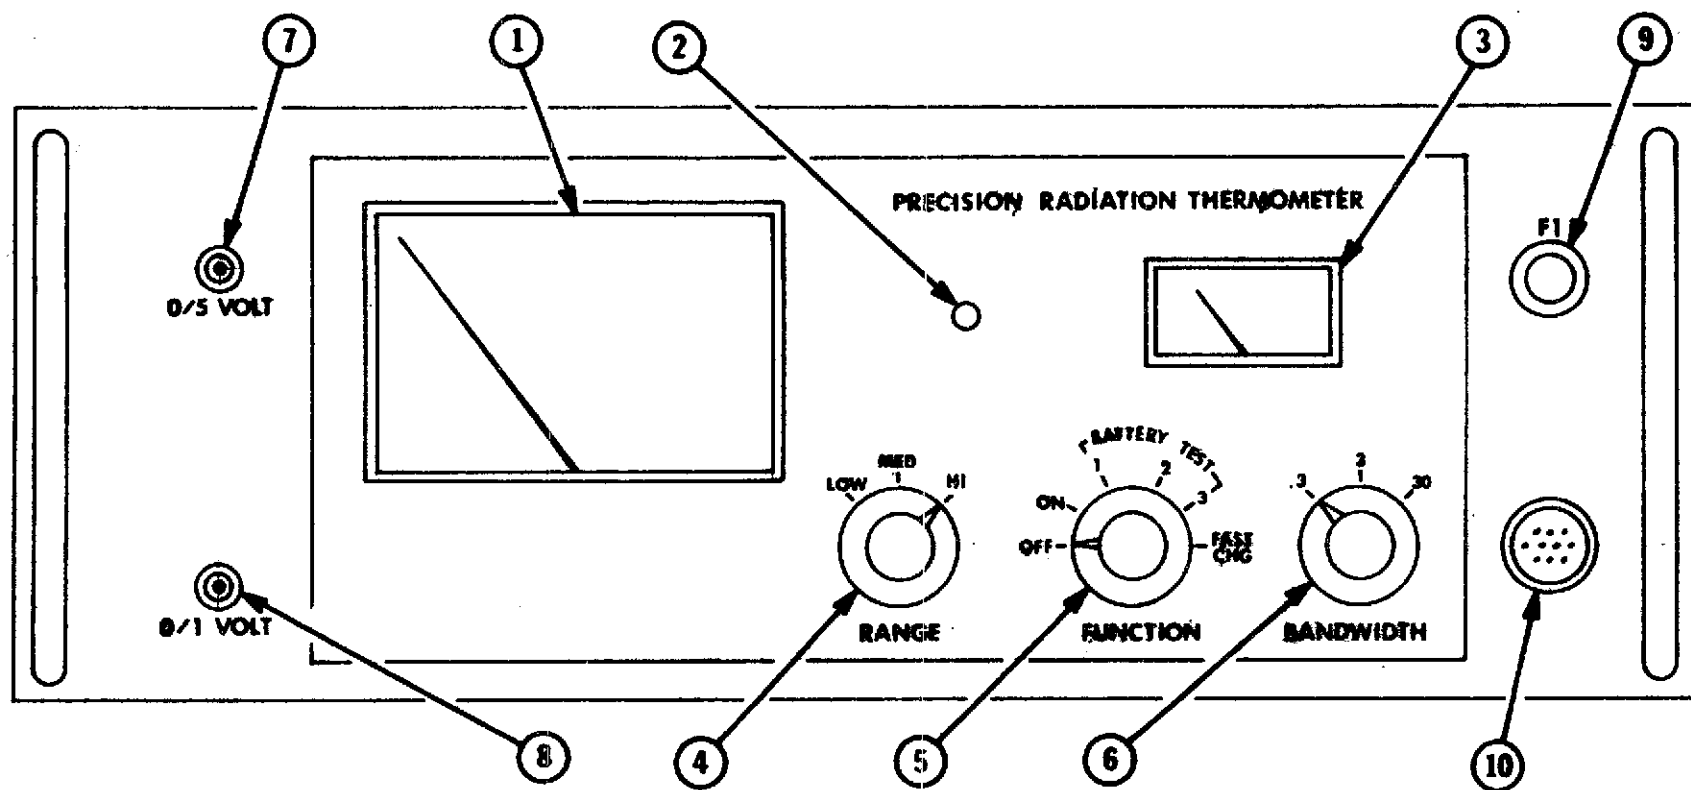

Figure 2-8. Radiometer Control Panel
2.9 RADIOMETER CONTROL PANEL (FIGURE 2-8)